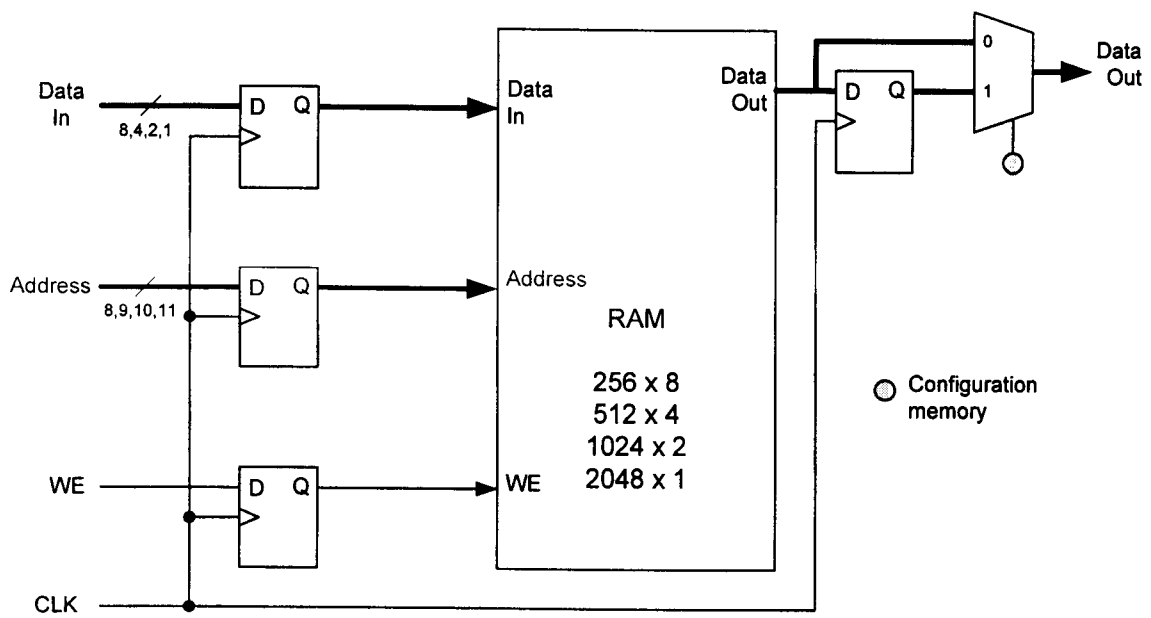

Figure 3.2
- b) Figure 3.2 depicts a Embedded Array Block (EAB) found in the Flex10K family of FPGA. Each EAB can be configured as 2048 x 1, 1024 x 2, 512 x 4 or 256 x 8 block of RAM. The data output can be registered or unregistered depending on how the EAB is configured as shown in Figure 3.2.
- (iii) Explain why one may want to register the output data from the EAB memory as shown in Figure 3.2.